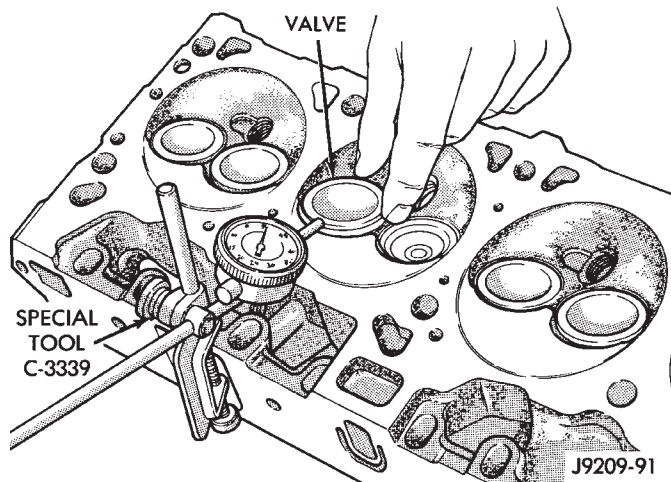

Fig. 56 Measuring Valve Guide Wear
- (2) Attach Dial Indicator Tool C-3339 to cylinder head and set it at right angle of valve stem being measured (Fig. 56).